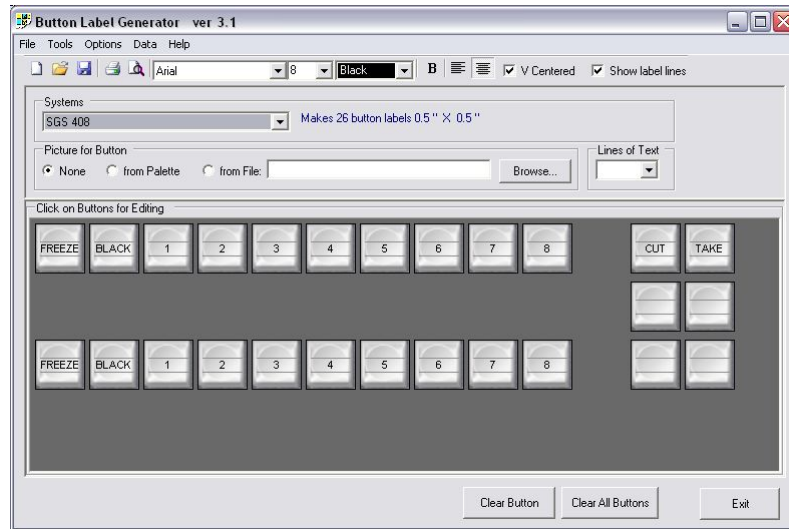

Figure 5-27 — Extron’s Button-Label Generator window
1. To run the Button-Label Generator program, select *Start > Programs > Extron Electronics > Button Label Generator > Button Label Generator*. The Button-Label Generator window appears (figure 5-27).